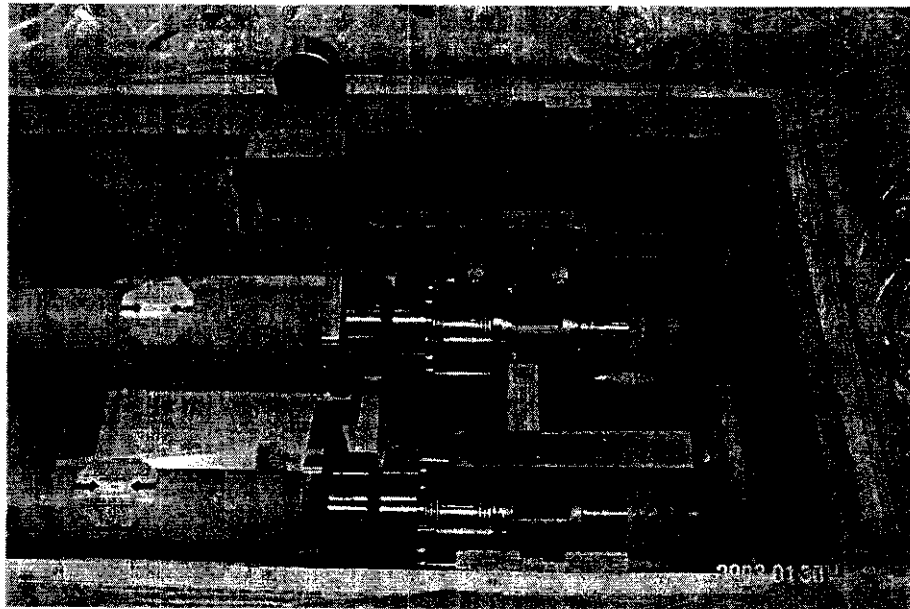

Figure 1.6 The lifting/insertion tool bolted to a power lead.
- 1.6 Attach the lifting/insertion tool to the lead flag as shown in Figure 1.6 and lift the lead from the steel table where the preliminary leak check was performed.